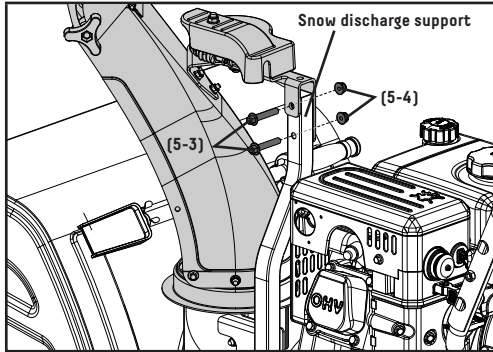

Figure 9B
3. Remove the bolts (5-3) and nuts (5-4) on the snow discharge support. Put the snow discharge chute on the base of unit's body. Attach the snow discharge support using bolts (5-3) and nuts (5-4) (Fig. 9B).